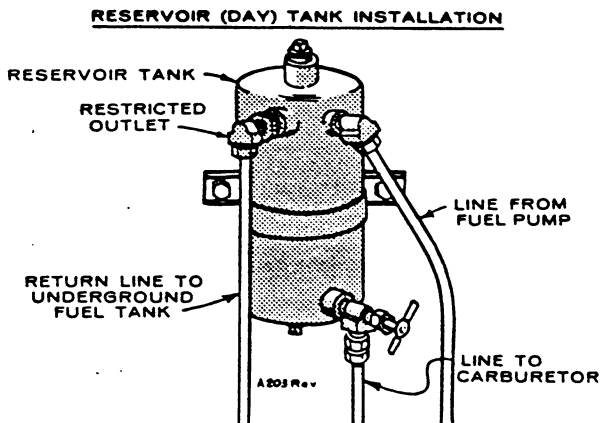

FIGURE 11. DAY TANK INSTALLATION
**Optional Day Tank:** The engine may be equipped with a one quart reservoir tank to replenish fuel lost from the carburetor by evaporation during shutdown. See Figure 11. Connect a 1/4-inch or larger return line between the reservoir upper side fitting (this fitting has a restricted orifice and must be used) and the main supply tank. Be sure the return line has a continuous drop to the main supply tank with no dip-and-rise where fuel could collect and form a vent seal. See that the top center opening of the tank is tightly plugged.